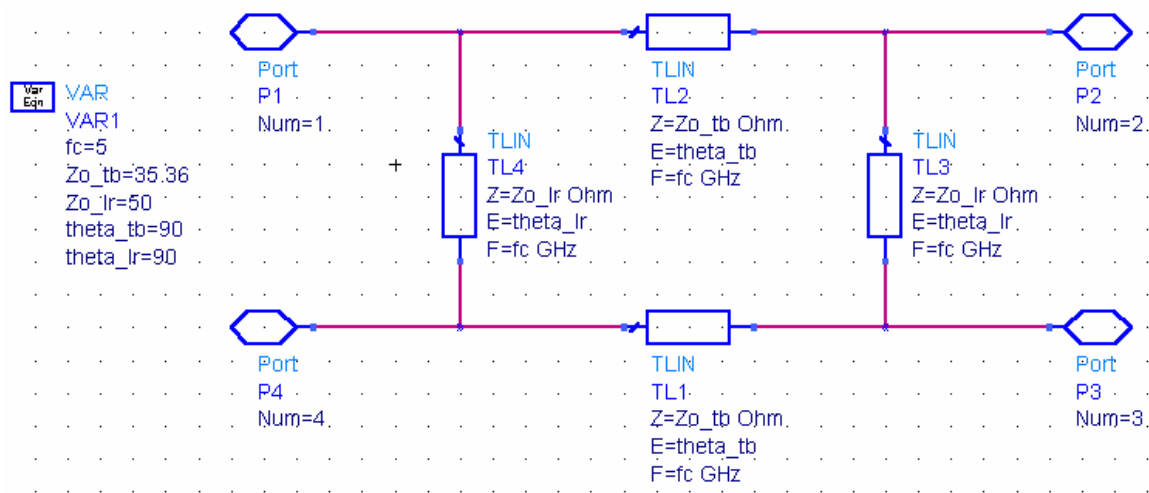

Figure 1. Circuit schematic of the ideal transmission line quadrature coupler (quad_ideal_1_4port.dsn).
- 2) Generate a schematic for the quadrature coupler using ideal transmission lines, assuming a center frequency of 2.5 GHz (see Figure 1).
- a) Add a variables (Var) block to the schematic (the button for this is located to the left of the Library (books) button near the top of the schematic window). When you specify the parameters for the ideal transmission line segments you will have to provide the impedance, electrical length and reference frequency for the electrical length. Enter the five parameters as shown in Figure 1, except f_c should be 2.5 GHz.
- c) Add PORTS at the proper locations and connect all elements using the wire (line) tool. When placing the ports, follow the numbering/position scheme shown in Figure 1 to ensure consistency with the remaining sections of this assignment.